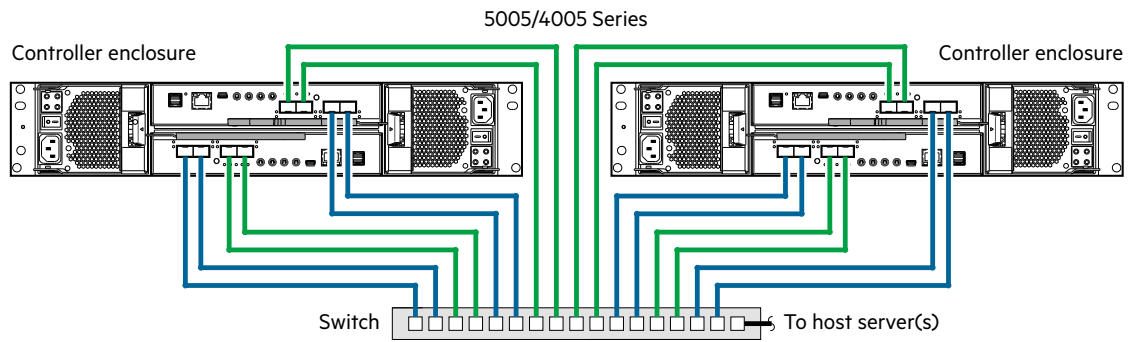
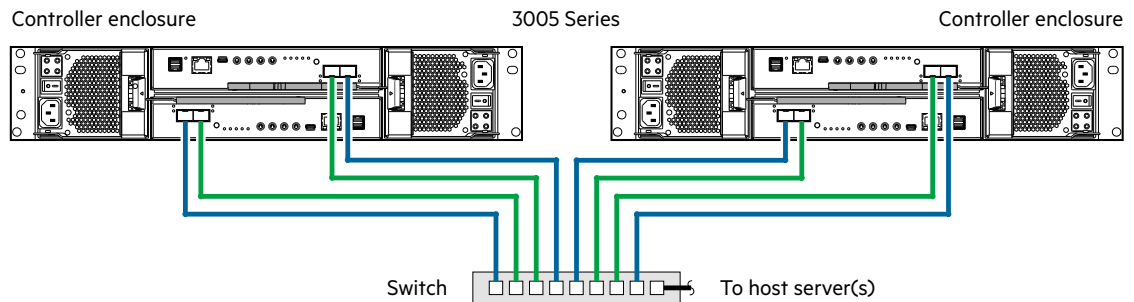
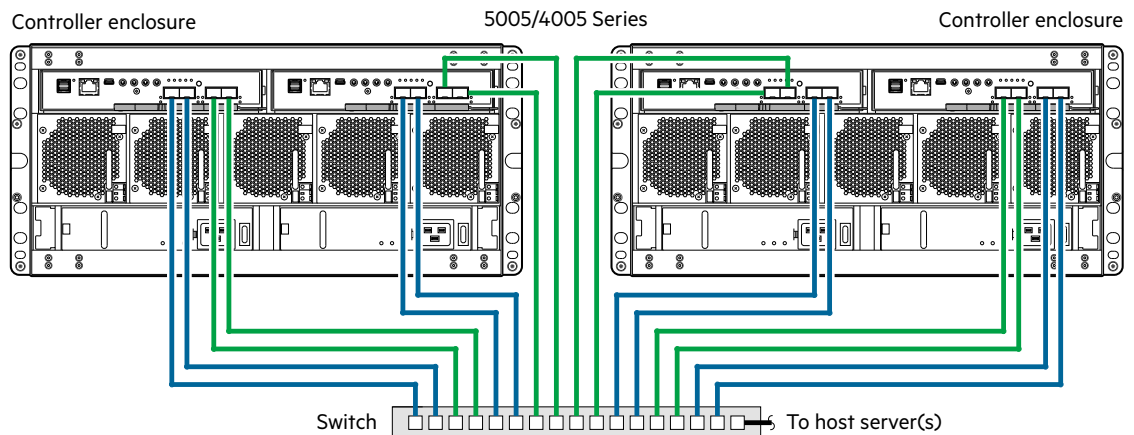

Figure 74 Connecting two 2U storage systems for replication: multiple servers/one switch/one location
Figure 75 Connecting two 2U storage systems for replication: multiple servers/one switch/one location
Figure 76 Connecting two 5U storage systems for replication: multiple servers/one switch/one location
- The storage system does not provide for specific assignment of ports for replication. However, this can be accomplished using virtual LANs for iSCSI and zones for FC, or by using physically separate infrastructure. See also the paragraph above Figure 74 \(page 79\).
Figure 74 and Figure 75 (page 79) shows the rear panel of two 2U enclosures with I/O and replication occurring on the same physical network. Figure 76 (page 79) shows the rear panel of two 5U enclosures with I/O and replication occurring on the same physical network.